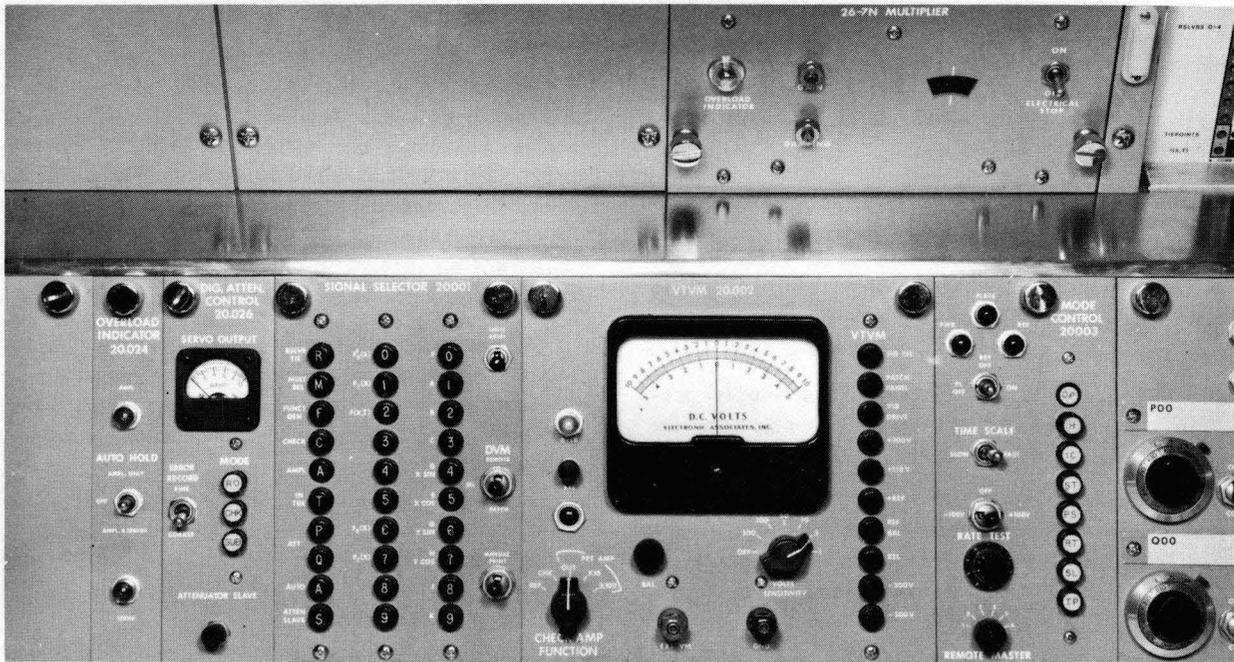

Figure 8. Control Panels.
**e. Monitoring. (See fig. 8 and 8a)**